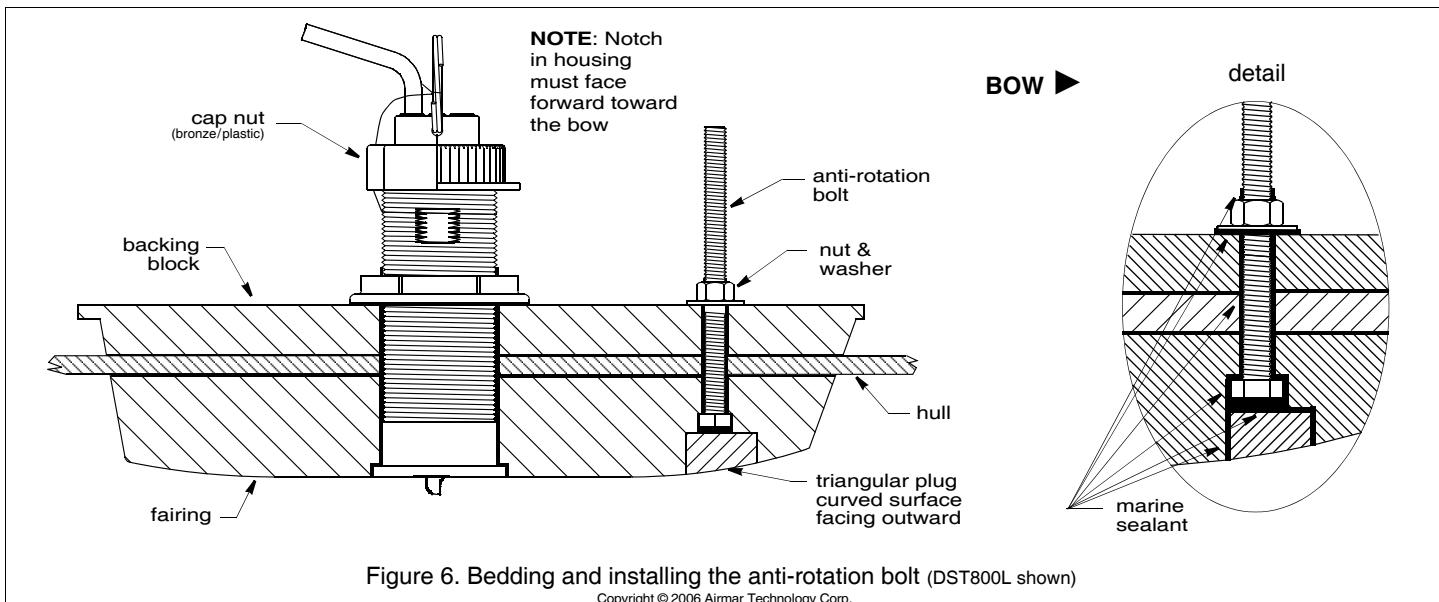

Figure 6. Bedding and installing the anti-rotation bolt (DST800L shown)
1. Dry fit the housing in the fairing. Seat the housing firmly in the recess in the fairing (see Figure 6).
1. Seat the housing firmly within the recess in the fairing (see Figure 6). *Align the notch in the top of the housing pointing forward toward the anti-rotation bolt hole (bow).*
1. Apply a 2mm (1/16") thick layer of marine sealant to the anti-rotation bolt *including the flange* (see Figure 6). *The sealant must extend 6mm (1/4") higher than the combined thickness of*